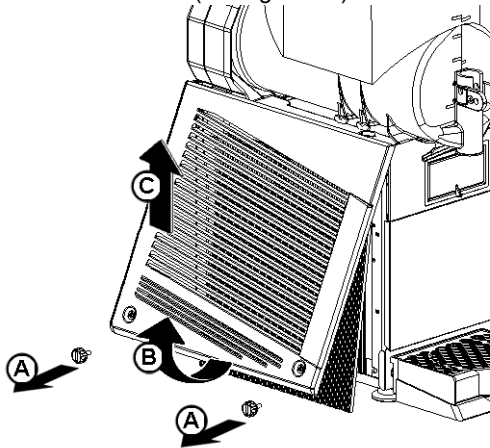

figure 17
**2 Monthly on FBM 1P, FBM 2 and FBM 3 models:** remove the dust from the condenser filter. A blocked filter will reduce performance and could cause compressor failure. Remove the only left panel (from faucet side) unscrewing the two plastic coated screws (see figure 17).